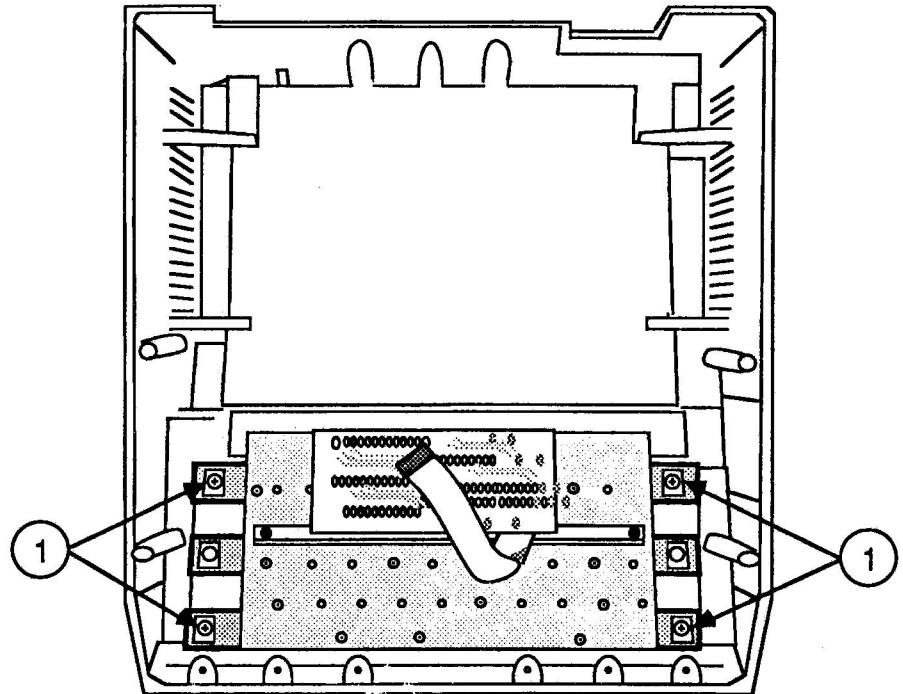

FIGURE 4
3. Remove the four nuts and lockwashers (Figure 4, #1) securing the keyboard to the housing, and remove the keyboard.